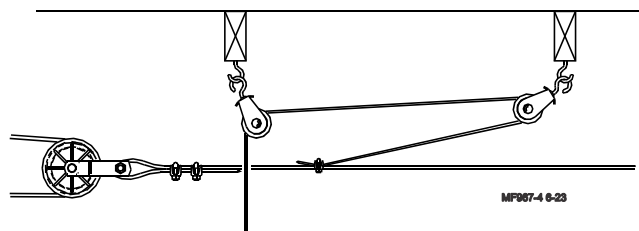

Figure 21. "Throwback" cable arrangement
- Allow enough cable length for installation of the Adjustment Leveler. Sufficient cable is included to provide "throwbacks" on drops located beneath and near the winch. **Figure 21**, shows a "throwback" cable arrangement.